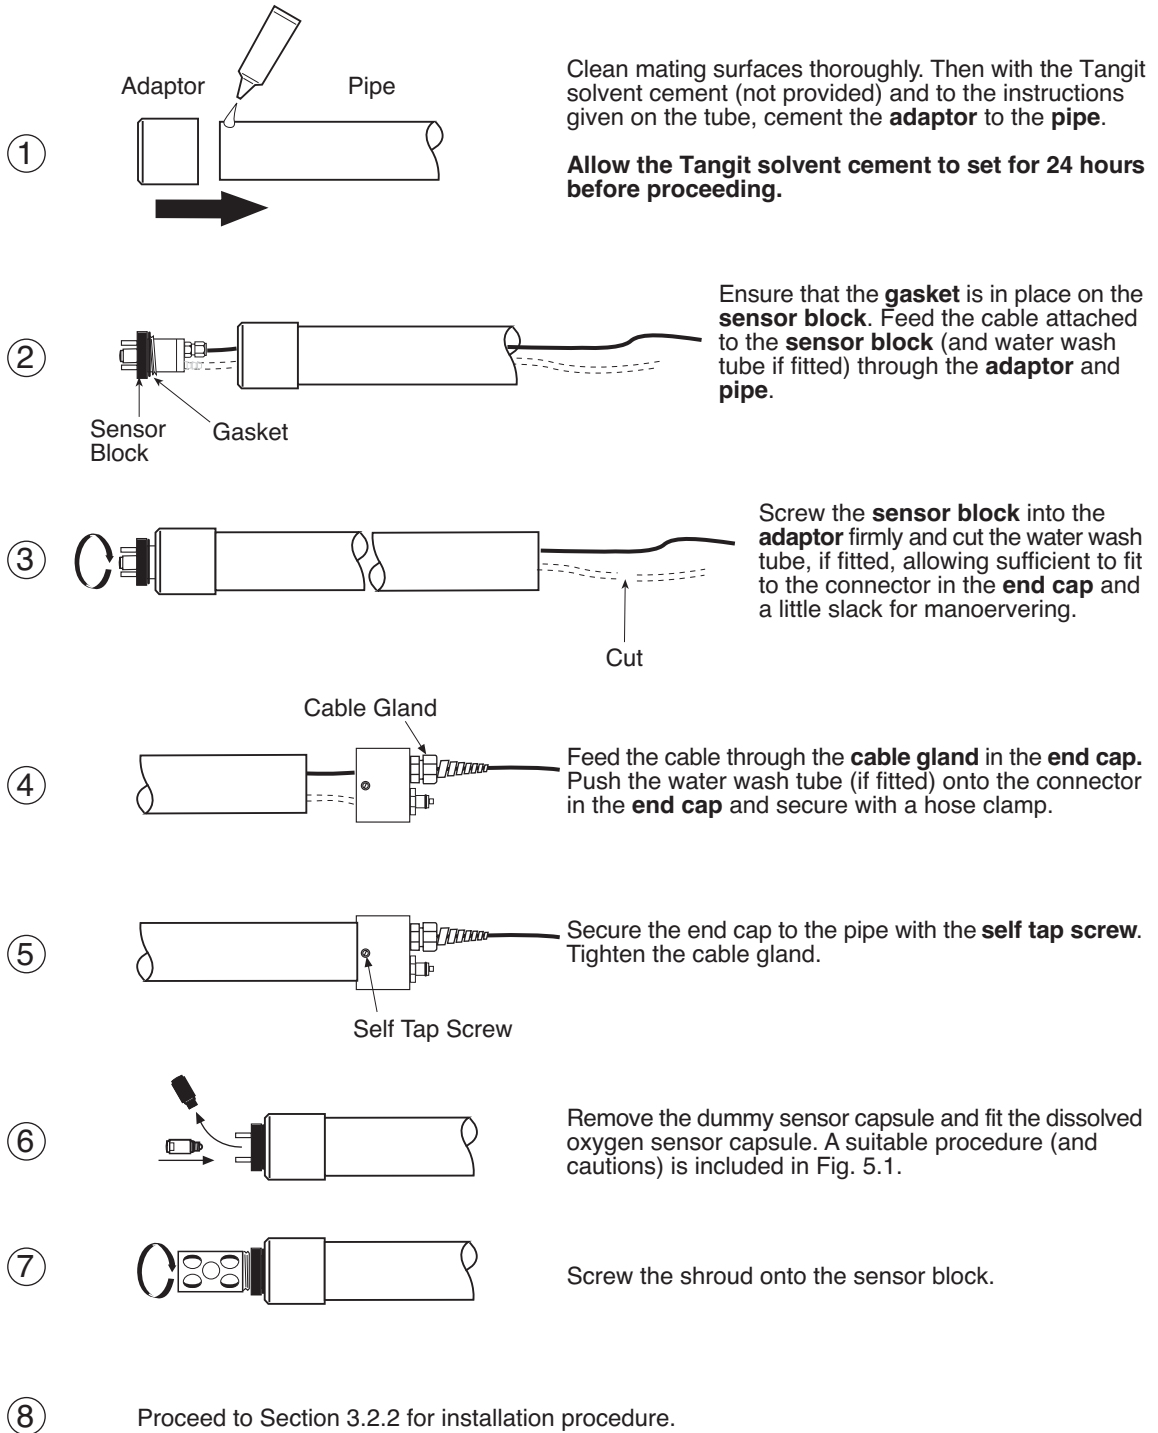

Fig. 3.2 Dip Kit Assembly
3.1.2 Dip – Fig. 3.2
Refer to Fig. 3.2 for information about accessing the floating ball. Use the necessary procedure steps in reverse order.